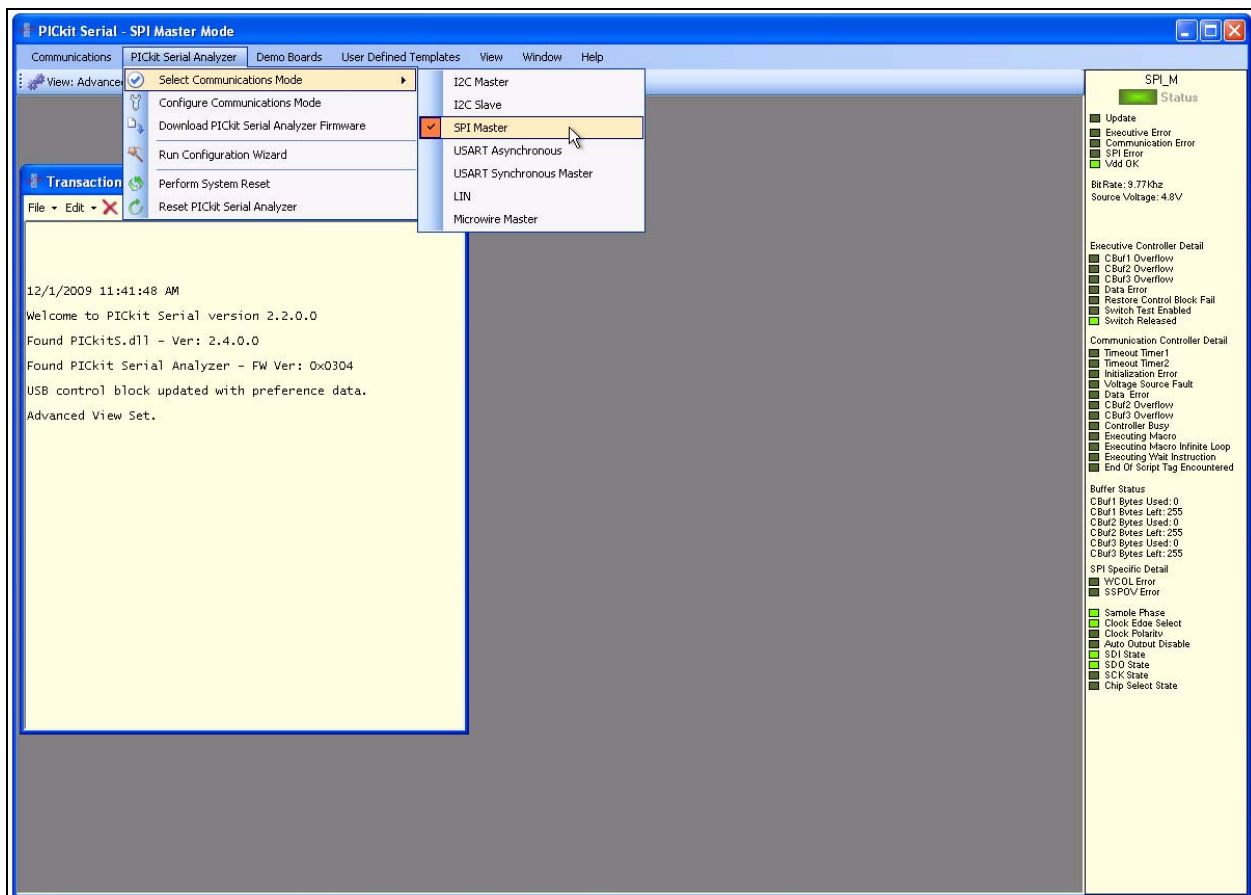

FIGURE 2-5: PICKit Serial Selecting Communications Mode.
We need to select the PICKit Serial Analyzer GUI to be in SPI Master mode. Figure 2-5 shows how to select the proper mode. Select *PICKit Serial Analyzer -> Select Communications Mode -> SPI Master* menu item (make sure the SPI Master item is checked).
5. Ensure the GUI is in Master SPI communication mode (see Figure 2-5).